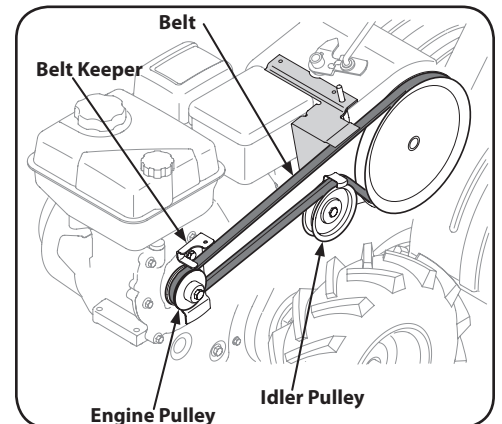

Figure 5-2
3. Remove the nut and washer from the front side of the belt cover. Remove the hex head screw at the back of the cover. See Figure 5-2.
4. Remove the belt keeper assembly located behind the engine pulley by removing the two hex bolts and lock washers. See Figure 5-2.
5. Remove the idler pulley by removing the bolt and nut. See Figure 5-2.
6. Remove the old belt and install the new belt. Follow the instructions in reverse order to re-install the belt keeper and belt cover. See Figure 5-2.